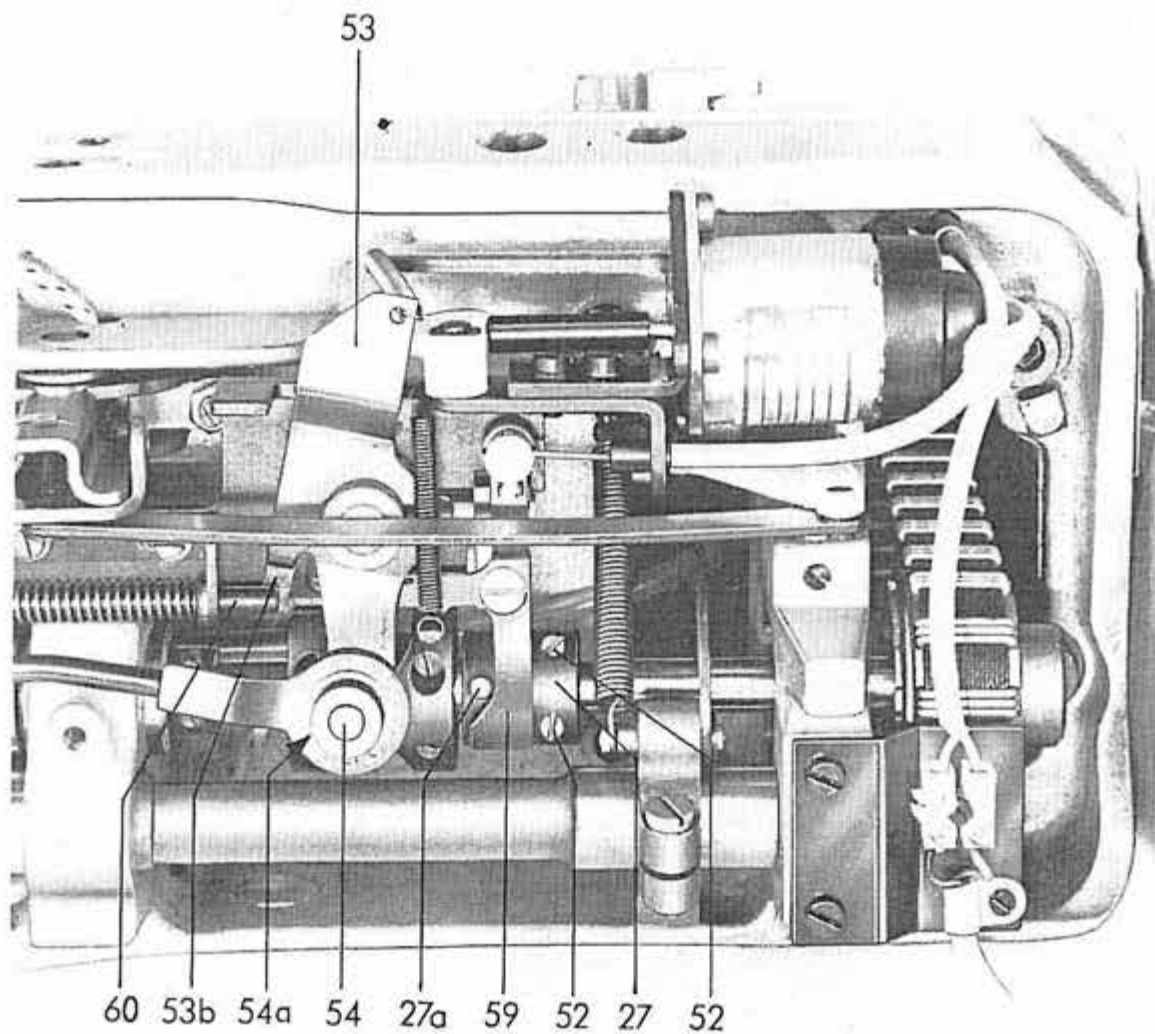

Fig. 59
**67.2. Adjusting the roller bolt 54 (fig. 59)**
Loosen the threaded pin 54 (fig. 59) and set the roller bolt 54 (fig. 59) so that with the tripping sheet 53 being engaged the distance between the face of the roller bolt 54 and the base surface of the cam race amounts to about 0.5 mm. When the tripping sheet is not operated the roller bolt 54 should be out of the cam race.
This can be obtained by adjusting the releasing bush 27 (fig. 59) on the lower shaft.
In machines with built-in setting gauge, set for "B" position, adjust the releasing bush 27 (fig. 59) so that with the releasing lever 59 being lowered the pin 27a stands immediately before the inclined surface of the lever 59. See fig. 59.
In machines with incorporated setting gauge, regulate in "B" position the releasing bush 27 (fig. 59) so that with the releasing lever 59 being lowered, the pin 27a stands immediately before the contact point of the releasing lever 59.
Start the cutting process by lowering the tripping sheet 53 (fig. 59), turn the machine by hand and move the hook shaped knife into its r/h final position.